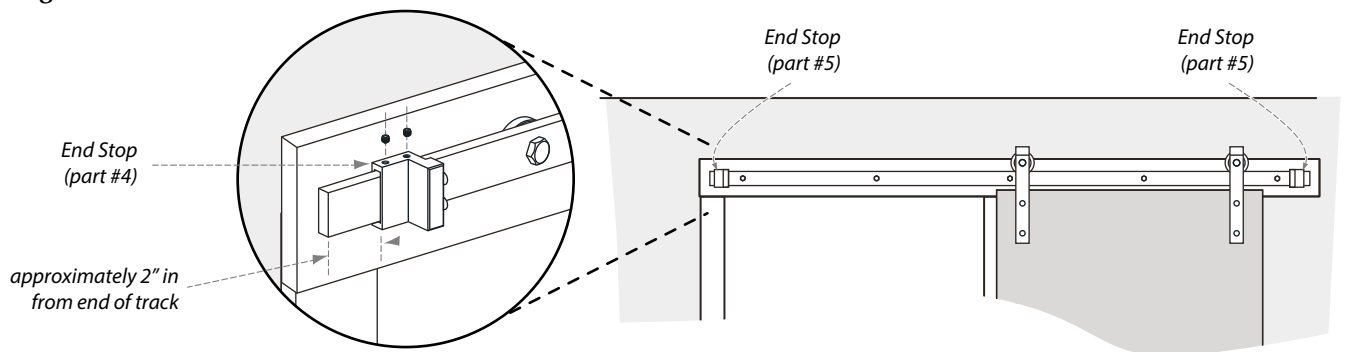

Figure 8
3. On both ends of track, install end stops (part #5) approximately 2" in from the end of the track to prevent door from rolling off (figure 8).